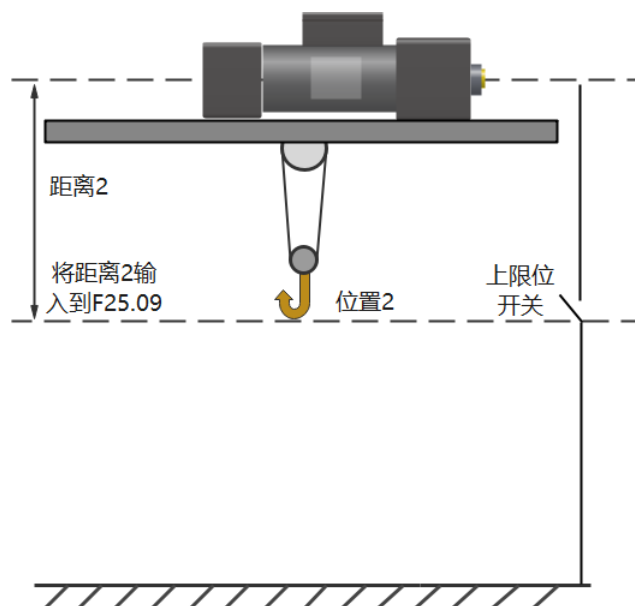

Figure 2
- A) Control the hook to rise until the upper limit position 2, as shown in Figure 2, corresponds to the upper limit switch of the lifting mechanism;